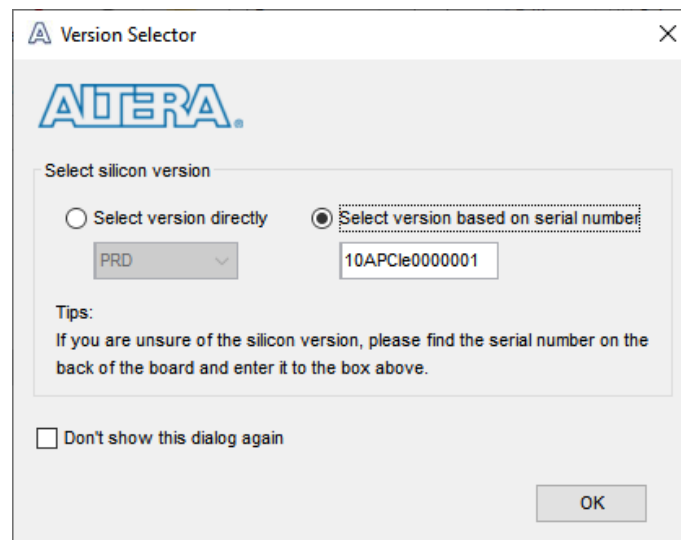

Figure 4-10 Power Monitor Screen
5. Launch Power Monitor. A GUI will appear as shown in **Figure 4-10**.